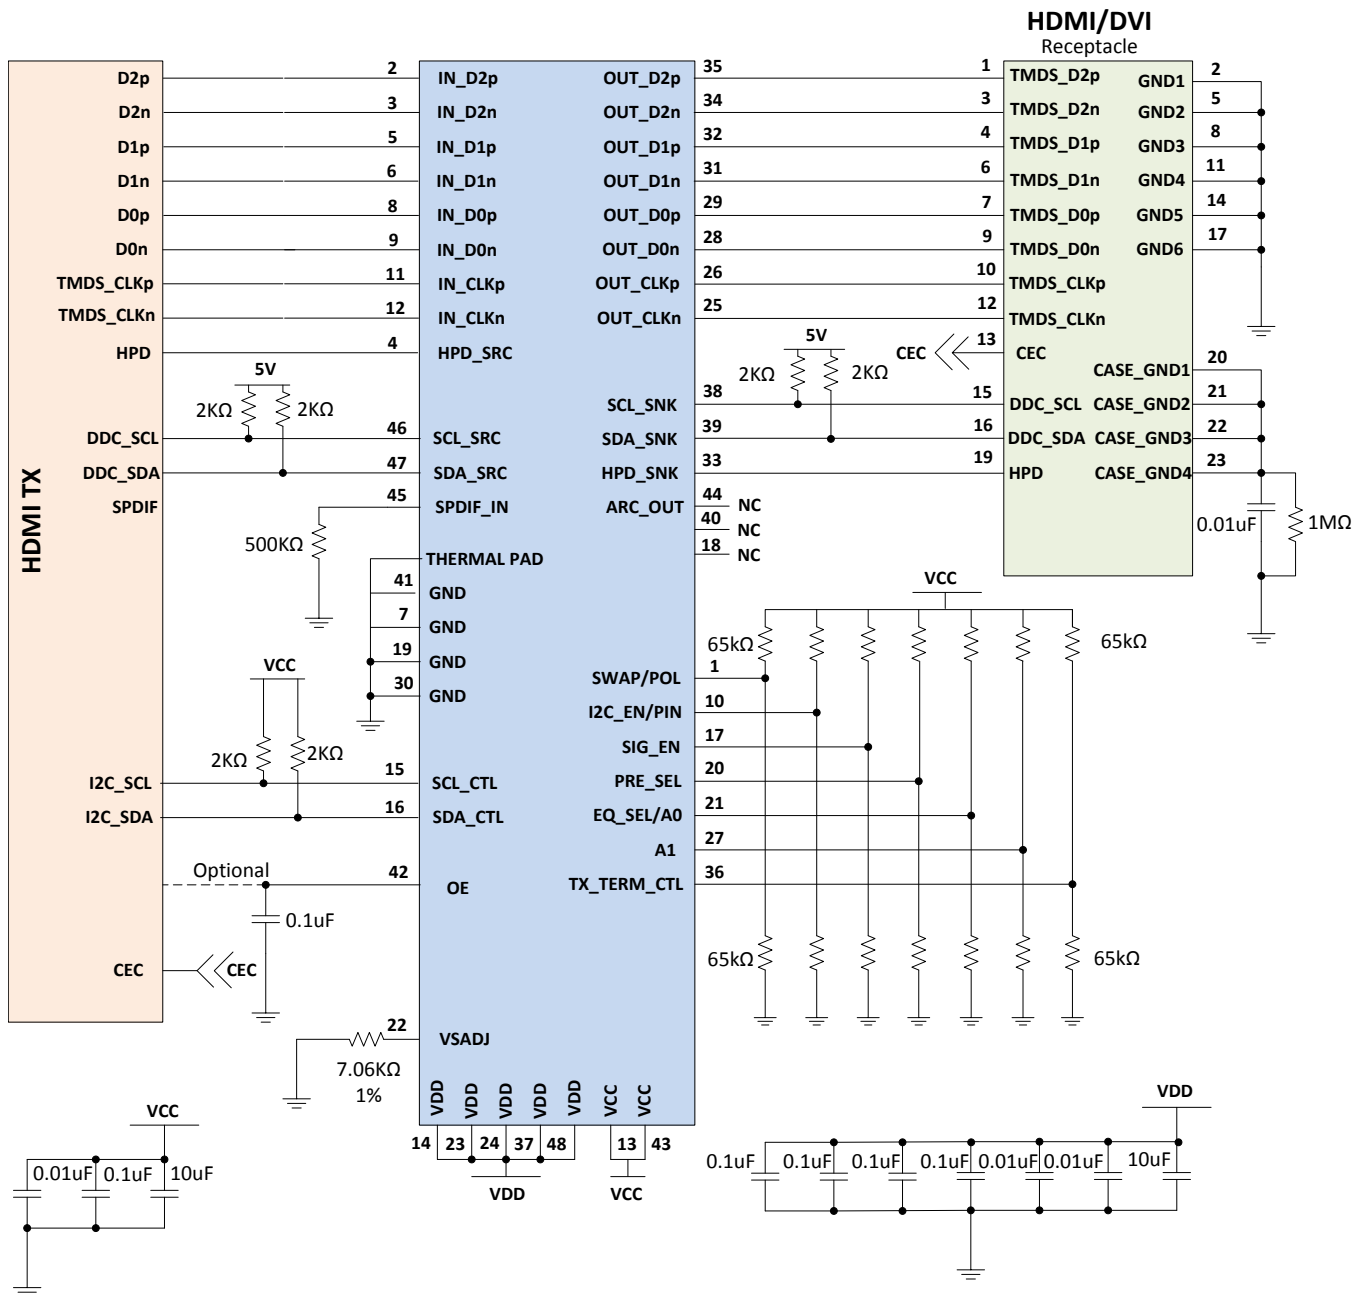

Figure 32. TMDS181 in Source Side Application
- Use the typical application Figure 32 for information on control pin resistors.
- See schematics in Figure 32 on recommended decoupling capacitors from VCC pins to ground.